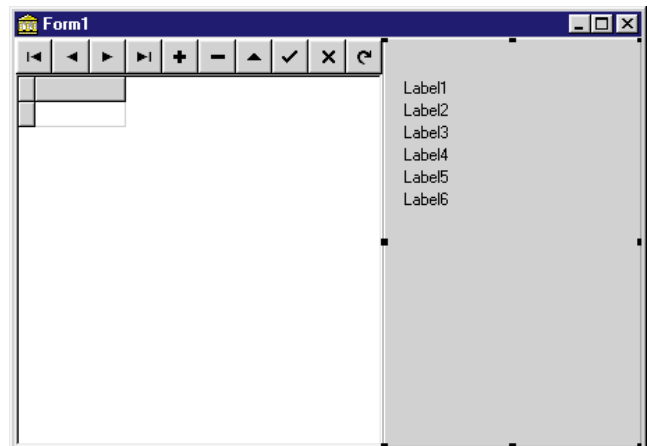

Figure 4: The stored procedure example under construction.
- 3) Next, place six Label components into the Panel aligned to the right. Adjust their position so they're left-aligned with respect to one another, and are spaced equally. Their positioning should resemble the lines of a correctly-addressed letter. Your form should look something like Figure 4.